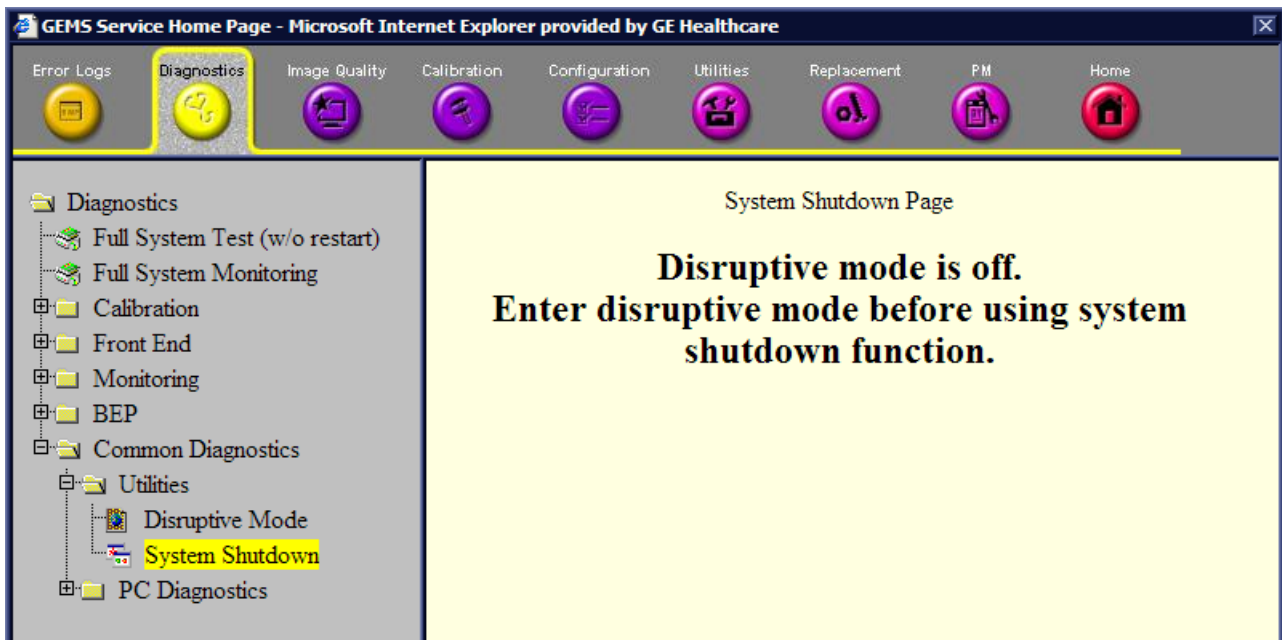

Figure 7-129 System Shutdown
- **System Shutdown** - see Figure 7-129.